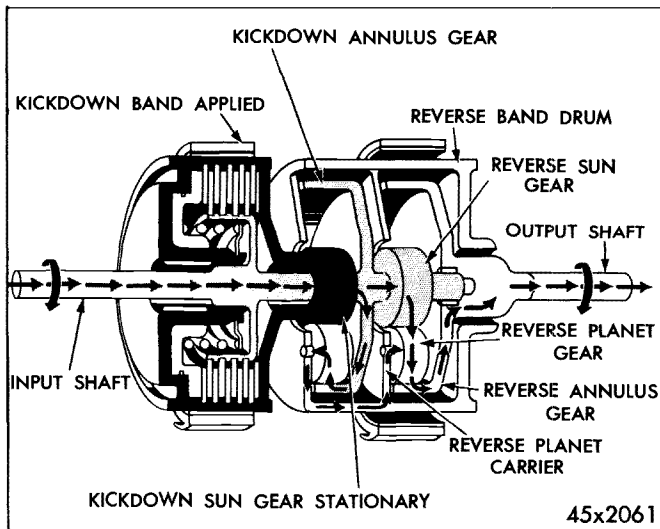

Figure 40—PowerFlow in Transmission (Breakaway, Kickdown or Low)
stationary. See Figure 40. The power flow is from the torque converter turbine, through the transmission input shaft, to the annulus gear of the kickdown (front) planetary set and to the sun gear of the reverse (rear) planetary gearset. When the kickdown sun gear is held stationary and the annulus gear is the driving member, the kickdown planet carrier rotates at a slower speed than the annulus gear. The speed of the reverse sun gear is further reduced by the reverse planetary gearset before power is transmitted to the output shaft. Since both the kickdown planet carrier and the reverse planet carrier are splined to the reverse band drum, the reverse planet carrier is revolving slower than the reverse sun gear, which is turning at input shaft speed. Therefore, the reverse planet gears rotate backward on their shafts and the reverse annulus gear which is the driven member and is splined to the output shaft, rotates forward more slowly than the planet carriers.
DRIVE RANGE—KICKDOWN—Pressing the accelerator pedal to the floor when in direct drive downshifts the transmission from direct drive to low gear. When this occurs the direct clutch is released and the kickdown band is applied. The power flow through the transmission is the same as it is for breakaway. See Figure 40.
LOW RANGE—When the panel control is placed in Low (L) the transmission stays in low at all times and cannot upshift into direct drive. When driving in low, only the kickdown band is applied and the power flow is the same as for breakaway, shown in Figure 40.